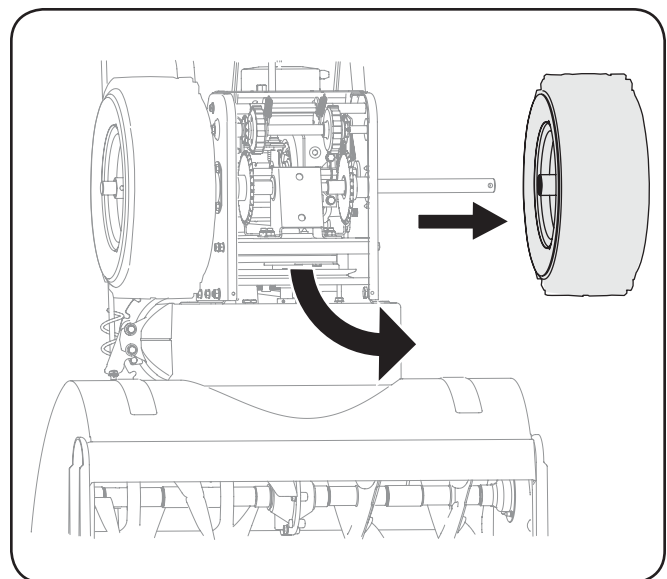

Figure 7-10
- Remove the right wheel(s) from the axle. See Figure 7-10.
- Using a 3/4" wrench, hold the hex shaft and remove the hex bolts and cupped washer and bearing from left side of the frame. Refer to Figure 7-10.